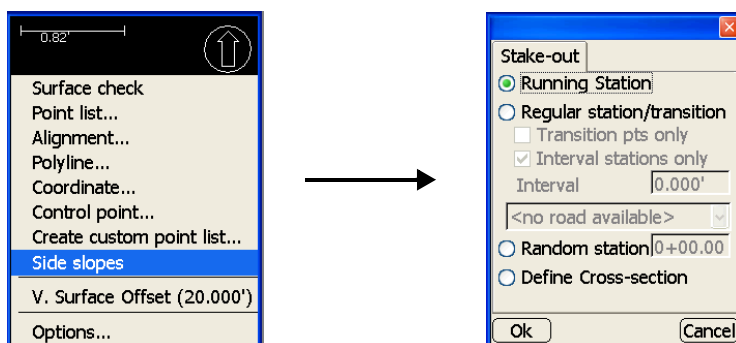

Figure 7-25. Stake out Points on a Slope
1. To stake out points on a side slope or a cross section slope, press **Survey ► Stakeout ► Side Slopes** (Figure 7-25 on page 7-20).
2. On the *Stake-out* dialog box, set the following parameters, then press **Ok** (Figure 7-25 on page 7-20).